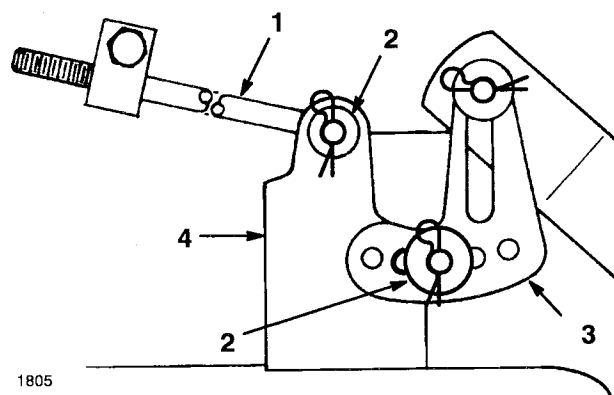

Figure 44
7. Slide the end of the long rod through the hole in the mower mount (Fig. 44). Install the washer and hairpin cotter to secure the rod in place. Repeat this step on the opposite side of the mower.
8. Mount the slotted mower leveling bracket onto the pin on the height-of-cut arm (Fig. 44). Install the washer and hairpin cotter to secure the mower. Repeat this step on the opposite side of the mower.